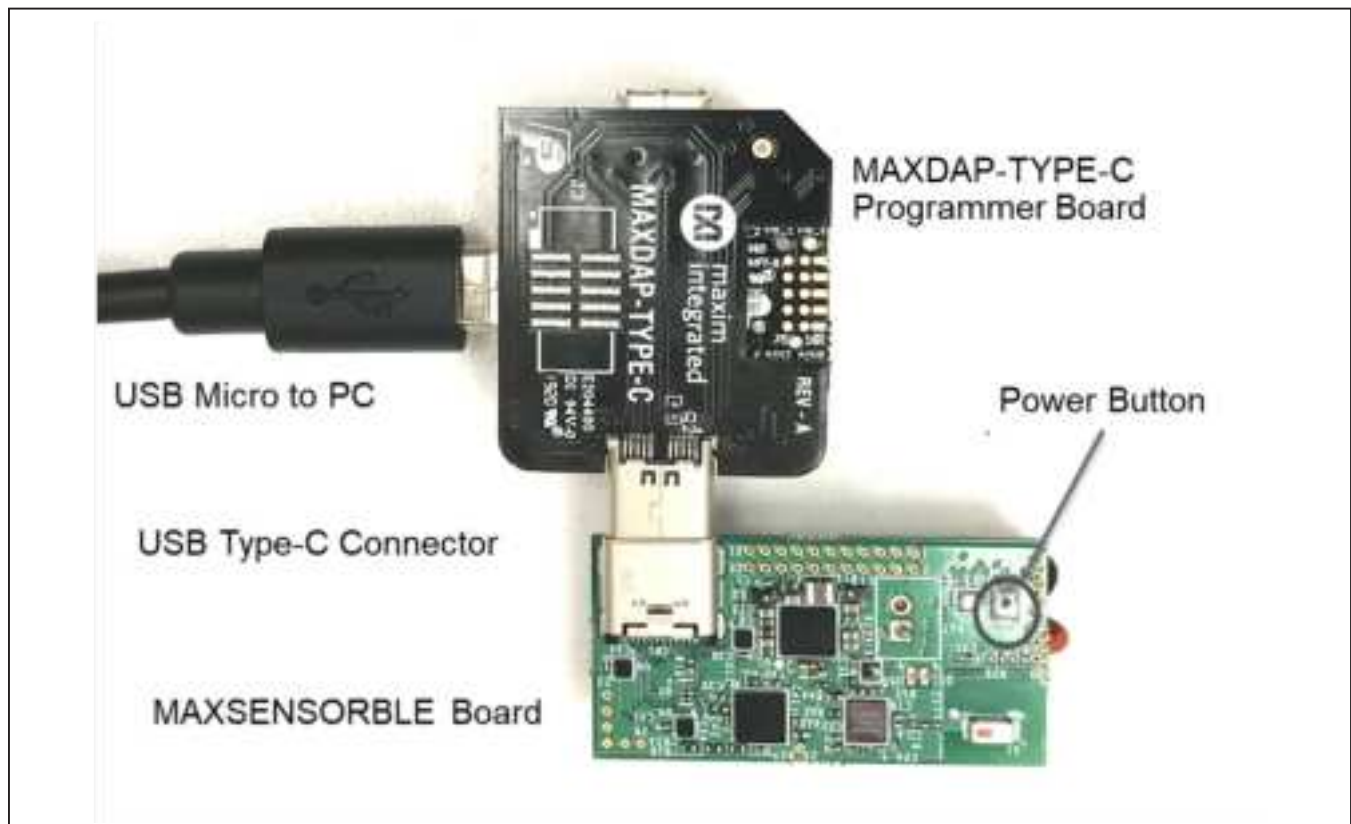

Figure 13. Connections to Flash Firmware on MAXSENSORBLE_EVKIT_B Board
- 1) Connect the MAXSENSORBLE board to the MAXDAP-TYPE-C programmer board as shown in Figure 13. Whether the MAXSENSORBLE board is connected to the sensor board or not does not matter. The orientation of Type-C connection between the MAXDAP-TYPE-C programming board to the MAXSENSORBLE board does matter during flashing, which can be checked by making the Maxim logo on the programmer board stay on the same side with the Power Button of MAXSENSORBLE. Connect the USB Micro to USB-A cable to your PC and then the MAXSENSORBLE board has red and yellow status indicator LEDs on.